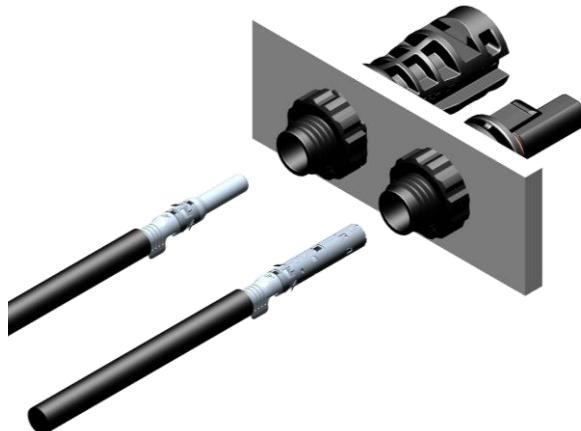
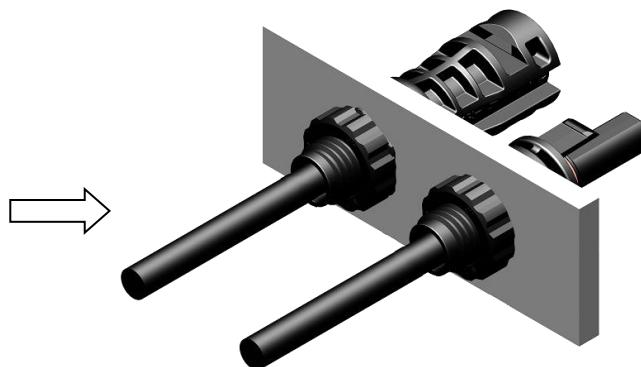

Figure 18
Figure 19
- 压接好的插针/插套插入到公端面板连接器/母端面板连接器内，直至其啮合（如图 18）。轻轻拉动导线，检查金属性件是否啮合牢固（如图 19）。
Insert the crimped male or female terminals into corresponding male or female panel connectors separately until they engage (Fig.18). Pull lightly on the lead to check that the metal part has engaged. (Fig. 19).